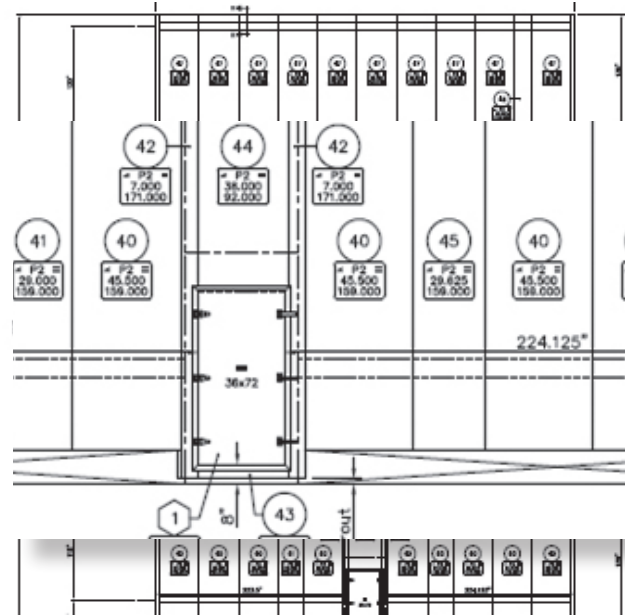

FIGURE 4: An example of an Auto CAD panel layout.
- All panels include a complete ¼ " scaled "D" drawings to ensure accurate system layout. (**FIGURE 4**)
- Auto CAD drawings with panel layout, installation details and individual panel markings, shorten the approval process and time spent on field labor. (**FIGURE 4**)